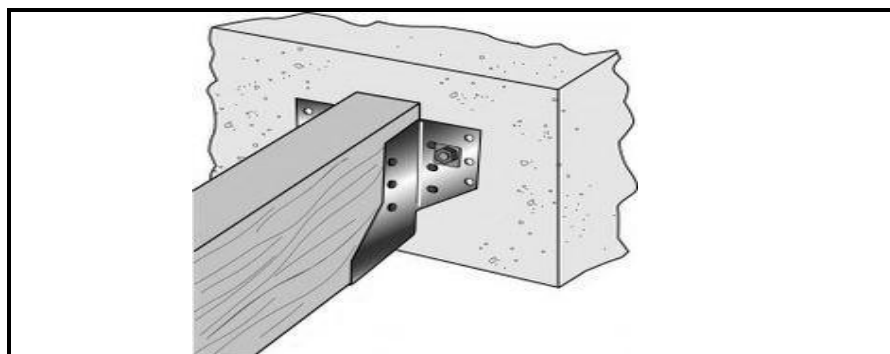

FIGURE 6.7
6.7 FIGURE 6.7 below shows a fastener used to join materials. Identify the fastener.